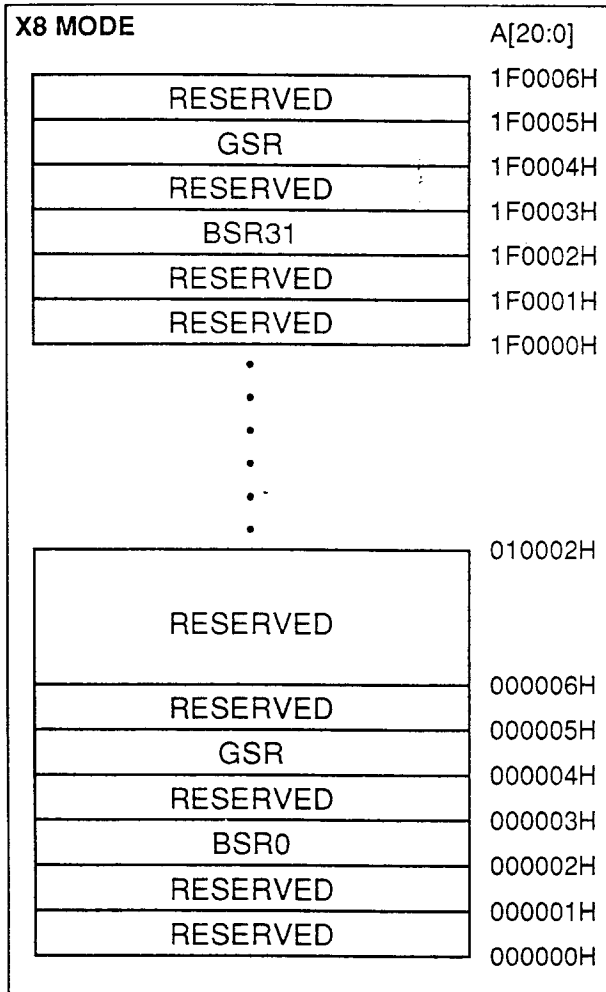

Figure 4.1 Extended Status Register Memory Map (Byte-wide mode)
1. RA can be the GSR address or any BSR address. See Figure 4.1 and 4.2 for Extended Status Register Memory Maps.